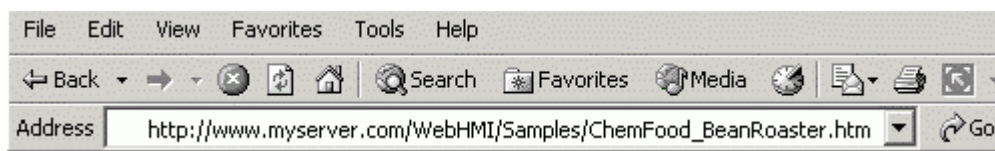

Figure 4.19. Viewing the Published HTML File in a Client Web Browser
4. Once the GenBroker Server is running, you can view the HTML file that you have published to the Web server from any client PC's Web browser. To view the published HTML file, open your Web browser and copy the URL address of the file into the **Address** field of the Web browser, as shown in **Figure 4.19**. A complete address is, for example, "http://www.myserver.com/webhmi/Samples/ChemFood_BeanRoaster.htm." Be sure to include the name of the HTML file that you have published and the ".htm" file extension.